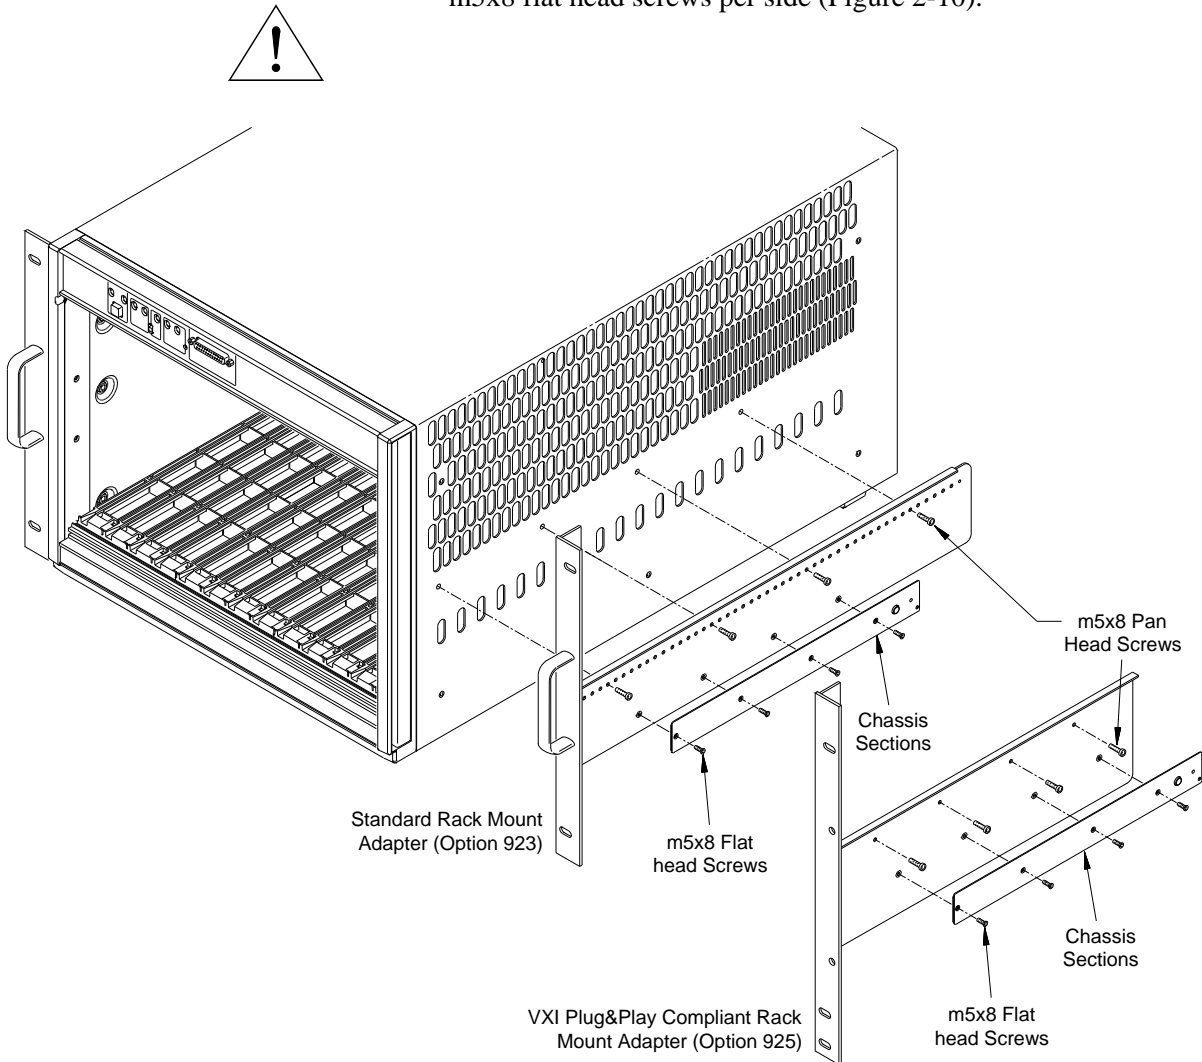

Figure 2-10. Attaching the Rack Mount Adapters and Chassis Sections to the Mainframe
7. Attach the rack mount adapters to the mainframe using the eight m5x8 pan head screws provided. To mount the mainframe flush with the rack front, begin with the 3rd hole from the front of the adapter (Figure 2-10).
8. Attach the chassis sections to the rack mount adapters using four m5x8 flat head screws per side (Figure 2-10).